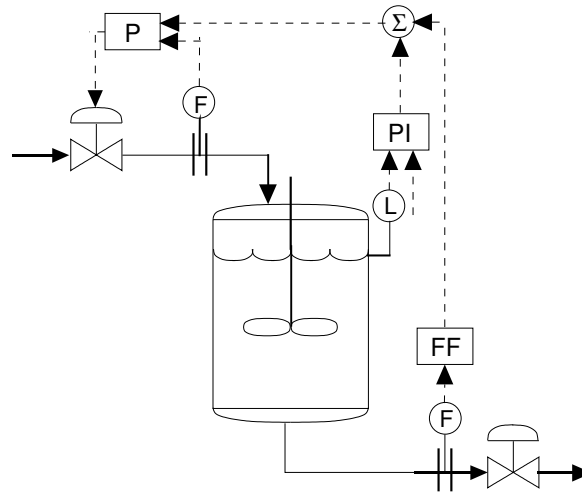

Figure 10.1 The control system in Problem 10.2.
- d.** The process flow sheet is given in Figure 10.1.